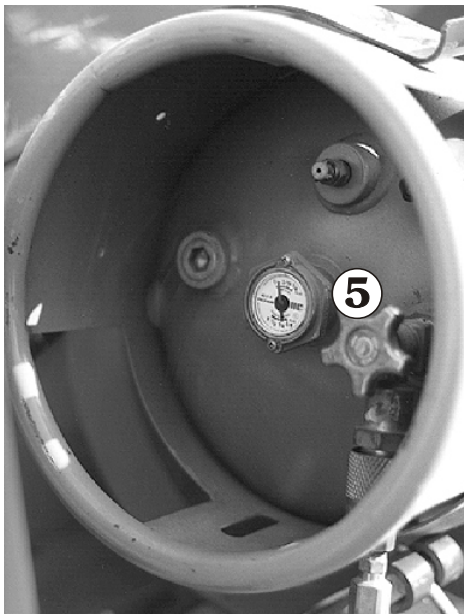

Figure 10.7
Close the valve ⑤ (see Figure 10.7) on the LPG tank (completely screwed in).